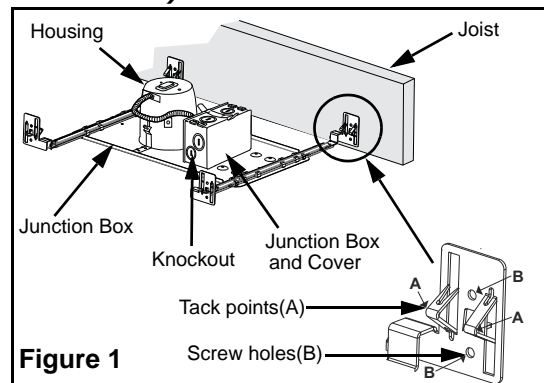

Figure 1
5. Remove the junction box cover by releasing the spring. Open the appropriate knockout for the supply wires on the junction box (see fig. 1). Supply wire insulation must be rated for at least 90°C.